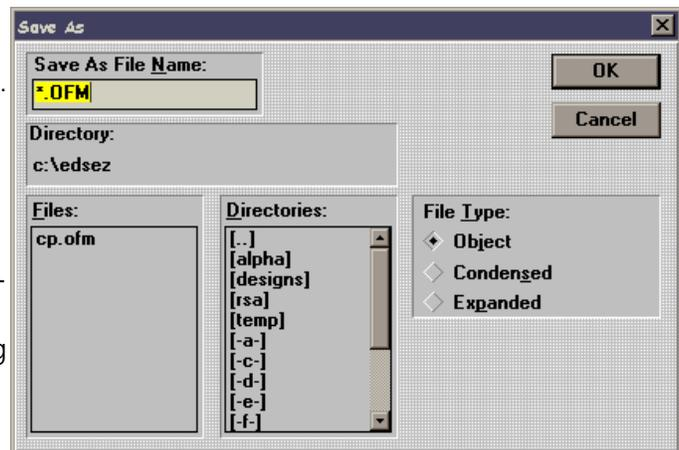

Figure 4-20
1. Click on File→Save As. The Save As dialog box displays as shown in Figure 4-20.